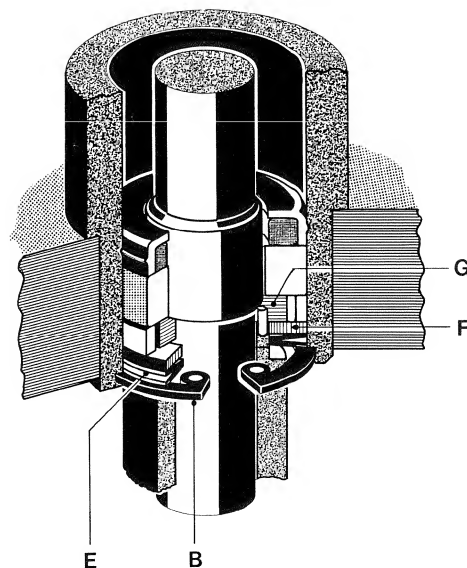

Fig. 3.5.-2
- Pull shaft lock A carefully sideways (under high stress); fig. 3.5.-1. Take the rotor of the capstan motor out downwards.
- If the circlip B is taken off then the step bearing can be removed (fig. 3.5.-2). The cap washer E, low friction washer F and the thrust bearing G should be removed in that order.